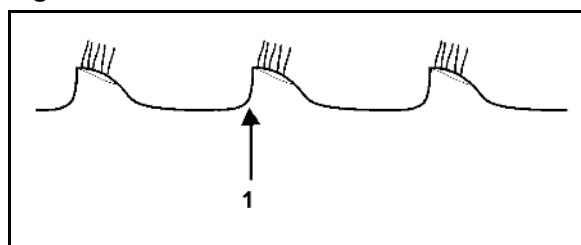

Fig. 47
- The working depth is set hydraulically using the scale (Fig. 47/1).